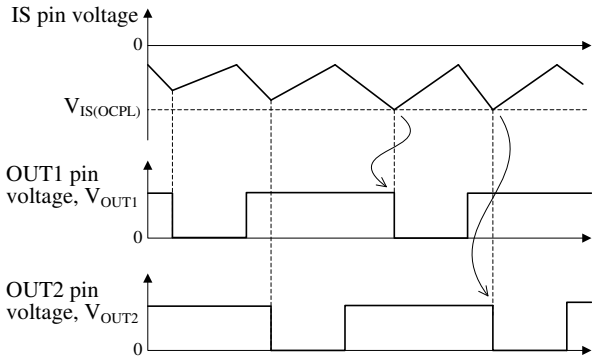

Figure 8-15 OCP operation by $V_{IS(OCPL)}$ (Both V_{OUT1} and V_{OUT2} are High)
2) When both V_{OUT1} and V_{OUT2} are High, the output which is set to High ahead is set to Low as shown in Figure 8-15.